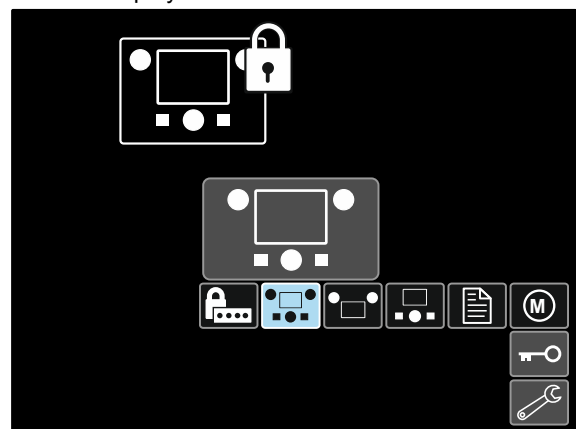

Figure 44.
- Use the Set Control [11] to highlight the element which will be locked, for example All Interface Components – see the Figure 44.